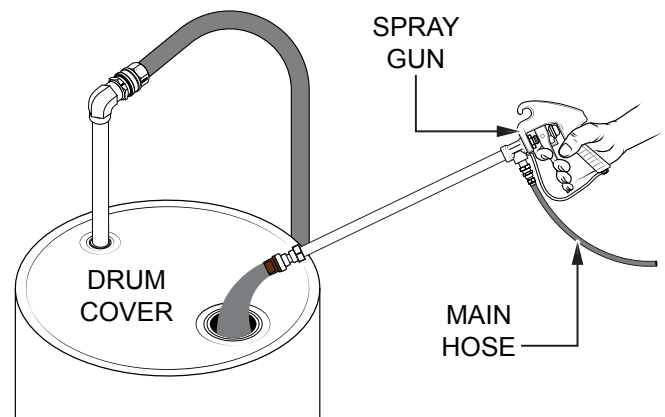

Figure 39. Purge Main Hose and Spray Gun
6. With the compressor still engaged, squeeze the spray gun trigger and hold it until all remaining liquid has been purged from the main hose and spray gun (Figure 39). It is recommended to remove the suction tube and aim the spray gun into the supply container while purging.